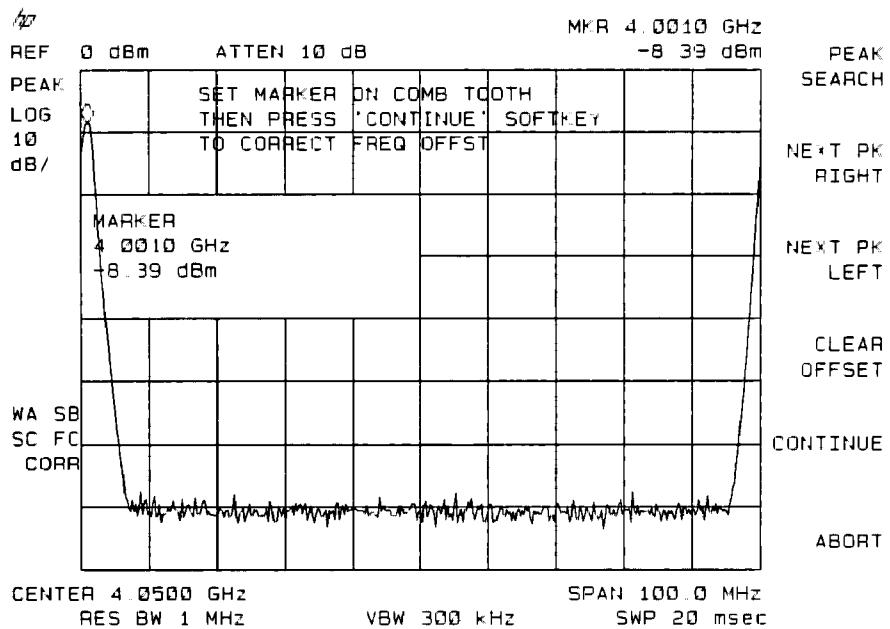

Figure 6-26. Using the Correct to Comb Function
3. Press **AUX CTRL**, **COMB GEN ON OFF (ON)**, **CORRECT TO COMB**. The marker is activated and the menu for the correct to comb routine is displayed. The message **SET MARKER ON COMB TOOTH THEN PRESS CONTINUE SOFTKEY TO CORRECT FREQ OFFSET** is displayed. See Figure 6-26.